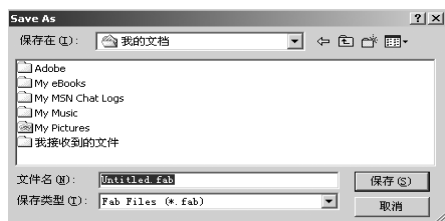

Fig 4.5
3. After its type is selected, click OK, here Save Box will appear as shown in Fig 4.5, you can select save path or select Cancel, Function Editing Box will appear as shown in Fig 4.3.